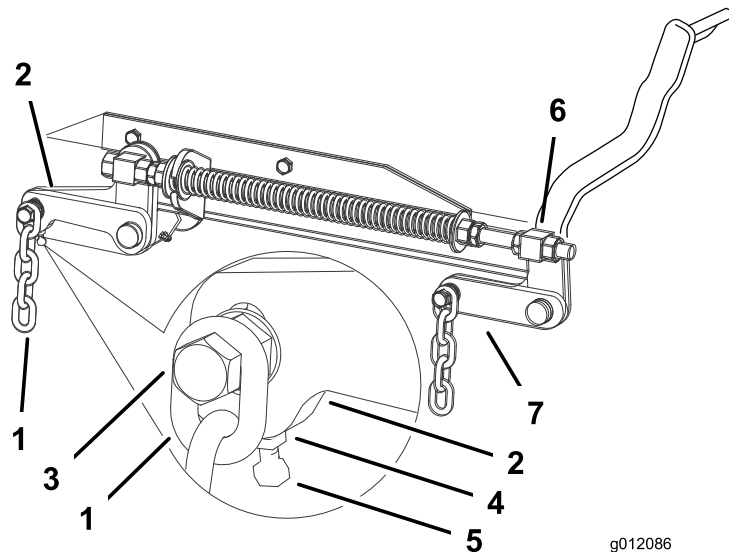

Figure 63
7. If the measurements at positions **B** or **C** are not correct, loosen the bolt attaching the rear chain to the rear support arm (Figure 63).
8. Loosen the jam nut under the rear support arm and adjust the adjustment bolt to get a measurement of 3-1/8 to 3-1/4 inches (Figure 63).
7. Loosen the front swivel jam nuts, at the front of the right and left swivels, approximately a 1/2 inch (13 mm) (Figure 63).
8. Adjust the lift nuts on both the left and the right side of the machine to achieve 1/4 to 3/8 inch (6 to 10 mm) lower in front at **A** than in the rear at **B** (Figure 63).